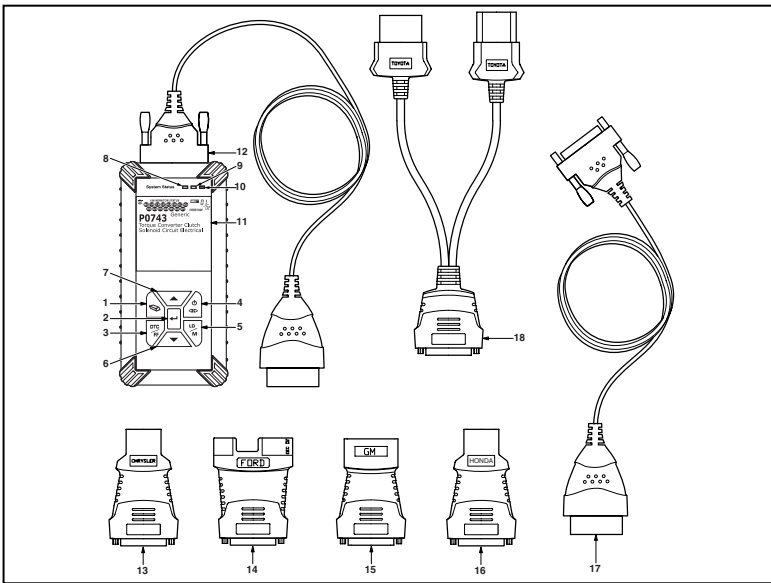

Figure 1. Controls and Indicators
See Figure 1 for the locations of items 1 through 18, below.